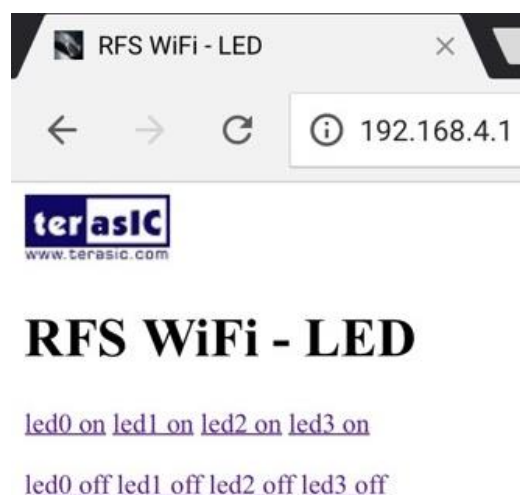

Figure 4-6 LED Control Web
This demonstration shows how to implement a simple Wi-Fi web server in such a way that users can directly use a mobile device to visit the web server. In the mobile device, a web server is used to client the web server. The web server provides the LED control interface as shown in Figure 4-6. Users can click the blue led text to lighten/un-lighten the LEDs on the FPGA main board.
8. Click led_on and led_off the control the LED on FPGA as shown in Figure 4-6.
8. Click led_on and led_off the control the LED on FPGA as shown in **Figure 4-6**.